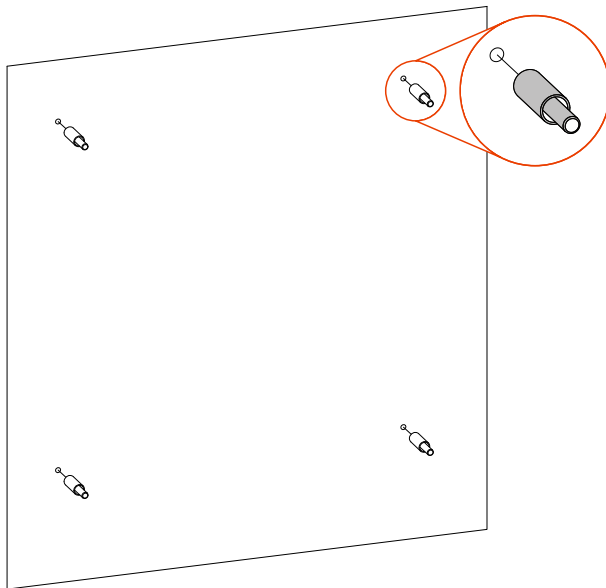

Figure3-5 Install the expansion bolts
- Step 3 As shown in Figure3-5, install the equipped four expansion bolts M10*80 into the installation holes on the wall.